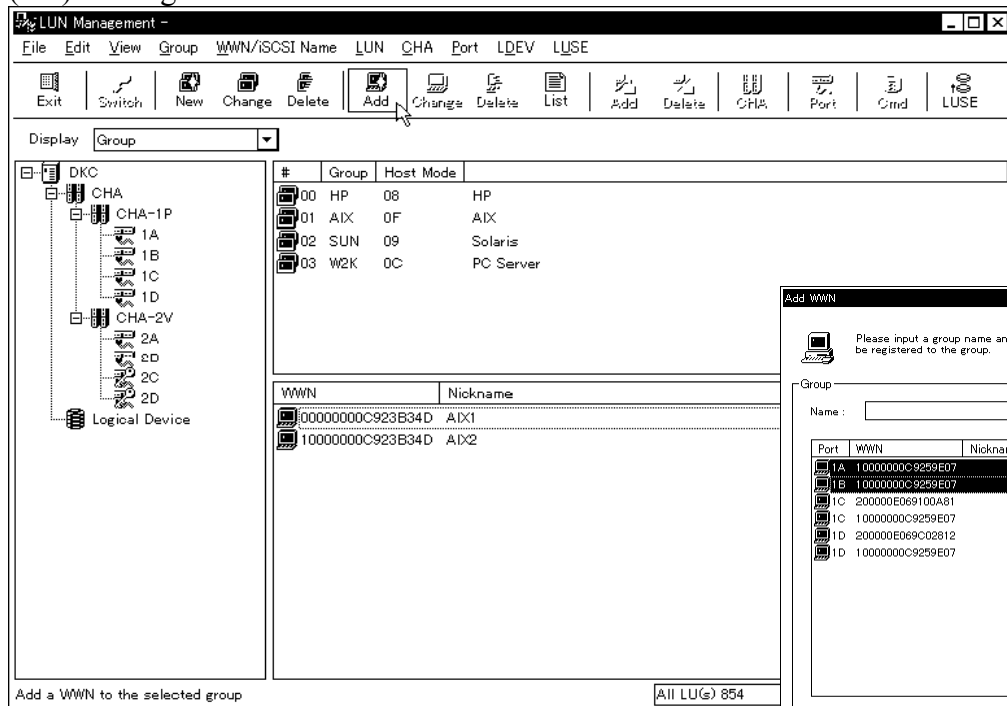

Figure 4.1.1 Main window
- ① Select (CL) a group to which you want to add a WWN from the upper right list.
- ② Select (DR) [Add] from the [WWN/iSCSI Name] menu in the Main window (Figure 4.1.1).
Details of the Main Window (Figure 4.1.1) and the other windows are shown on the following page.